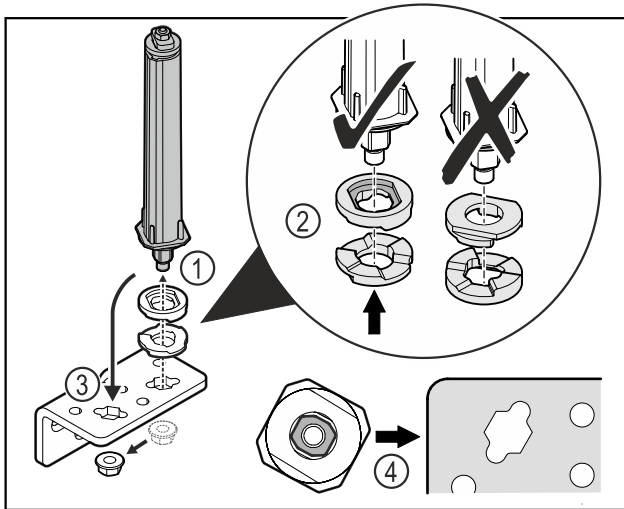

Fig. 51
- ▶ Loosen the nut and remove the door closing system Fig. 51 (1).
- ▶ Observe the correct alignment of the height adjustment washers Fig. 51 (2).
- ▶ Put the door closing system in the hinge and fix in place with the nut Fig. 51 (3).
- ▶ Observe the correct alignment of the door closing system when doing so Fig. 51 (4).